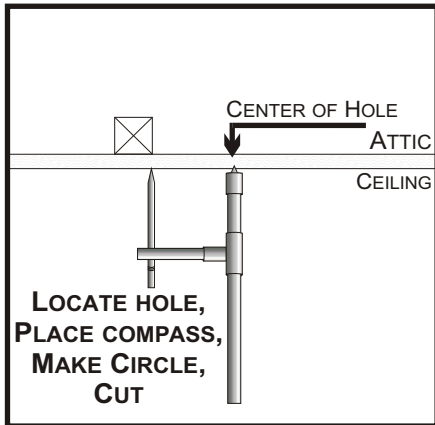
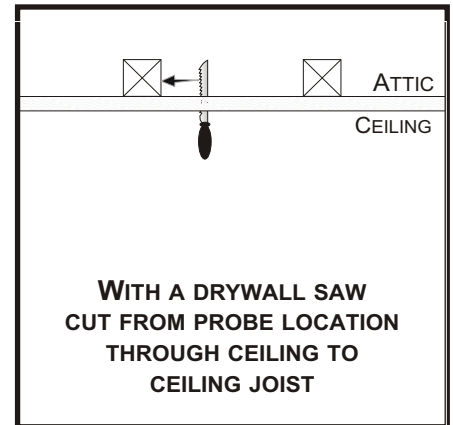

Figure 3
Figure 2
**4.** Locate the ceiling joist. The side of the pipe will attach to this ceiling joist. With a drywall saw cut through the ceiling to the ceiling joist **(Fig. 2)**. Use the enclosed compass to locate the center of the hole for the pipe **(Fig 3)**. Using the compass (keep the center of the compass straight up and down) draw a 5 1/2" inch, 8 inch or 13 inch circle on the ceiling. (Depending on the kit you have). If the ceiling is vaulted, keeping the compass vertical, the compass slides up and down on the center pipe creating an elliptical circle. Proceed by cutting the ceiling hole.